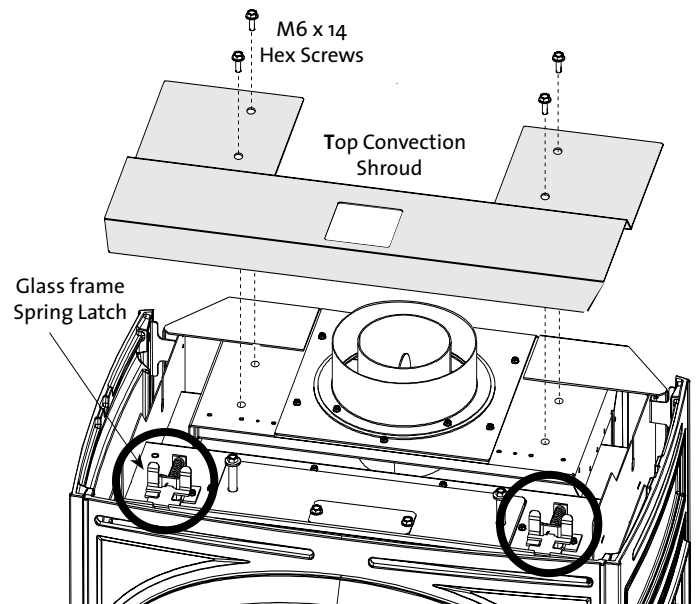

Figure 2a. Remove the Top Convection Shroud and disengage the glass frame latches.
- a) Remove four hex head screws using a 10 mm wrench and disengage the Top Convection Shroud from the top of the firebox. See fig. 2a.
- b) Remove the Glass Frame by disengaging the two spring latches located on top of the firebox as in fig. 2a. Pull each handle forward to clear the latch from the notch in the frame and lift the frame straight up out of the stove.